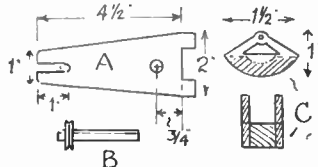

Fig. 3—Wheel support parts
For the pair of standards, cut two at (A) in Fig. 3, from $\frac{3}{8}$ in. wood to the shape given. The slot at the top is just $\frac{3}{8}$ in. wide. To the length of the standards, add $\frac{3}{8}$ in. for the two tenons at the bottom. These will be cut to the size, and spaced apart, to suit the mortises in the base. On the centre, and at $\frac{3}{8}$ in. from the bottom, bore a $\frac{3}{8}$ in. hole through both for the axle of the second pulley already mentioned. Now glue the standards in the base.
The boats (C) in Fig. 3, consist of side pieces of $\frac{3}{8}$ in. wood, cut to the complete shape, with a $\frac{1}{2}$ in. thick piece of deal between, cut to the shape shown by shaded lines. The holes at the top are drilled to suit the wires mentioned.